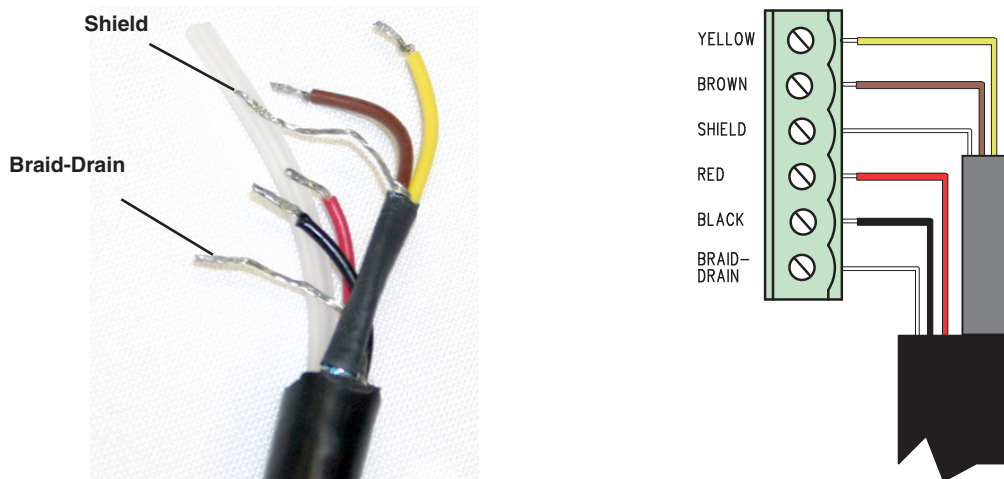
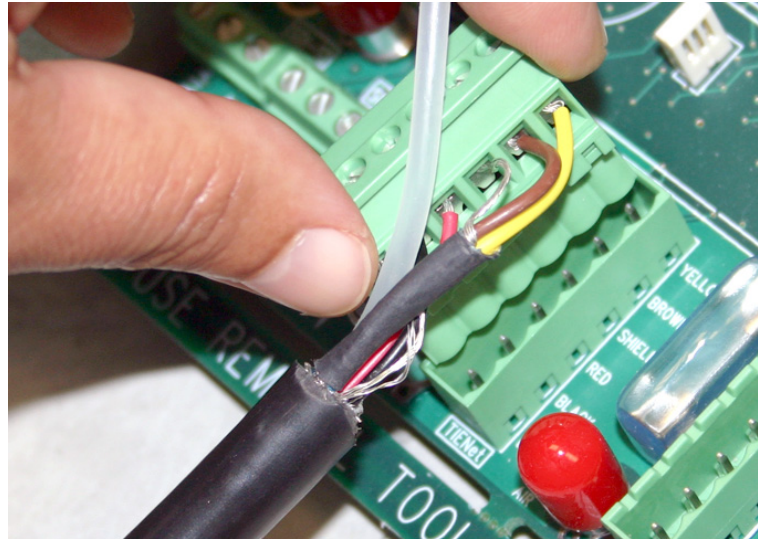

Figure 2-8 TIENet Device terminal connections
Figure 2-9 Attach wired terminal strip to case board socket
Barriers or isolators required for certifiable safe installation are the responsibility of the user. Refer to the control drawings provided in Figures 2-9.
4. Attach the wire ends to the terminal strip as shown in Figure 2-8), then press the terminal strip back down into its socket on the case board, as shown in Figure 2-9, ensuring no wire connections are strained. Gently tug each wire when finished, to verify secure connection to the screw terminals.